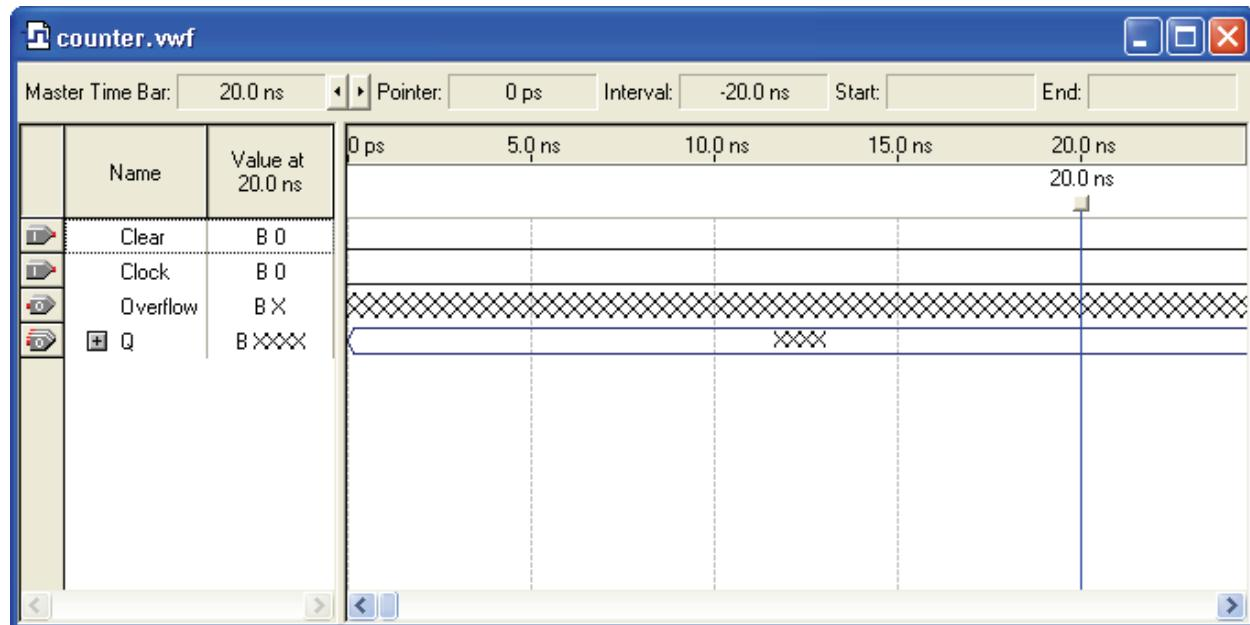

Figure B.7 The Vector Waveform window with the four signals for simulation.
7. Click on the **OK** button in the Insert Node or Bus window to insert the selected signals to the Vector Waveform window as shown in Figure B.7.